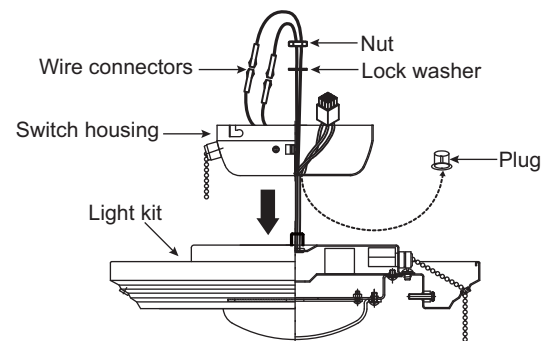

Fig. 16
Step 1. Remove the plastic plug from the center of the switch housing. Attach the light fixture to the switch housing by feeding the light fixture wires (black & white) through the hole in the center of the switch housing, then screw the light fixture stem into the center hole. On the inside of the switch housing, place a lock washer and a nut on the light fixture stem and tighten. (Fig. 16)
Attach the wires from the light fixture to the wires inside the switch housing by pushing the polarized connections together. (Fig. 16)